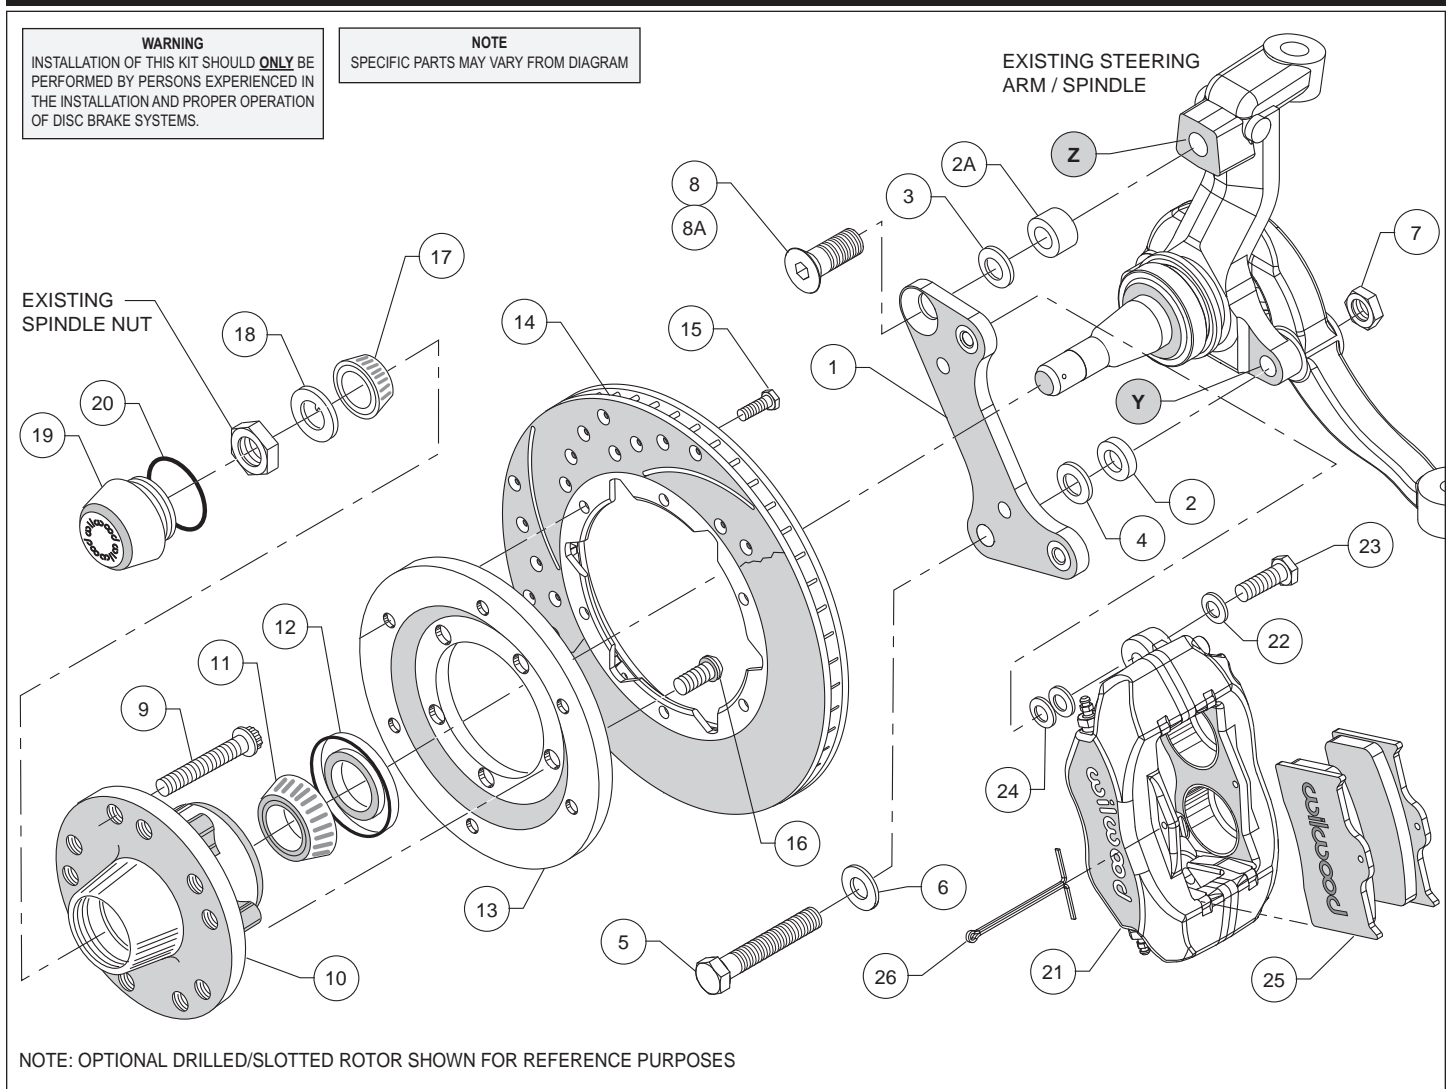
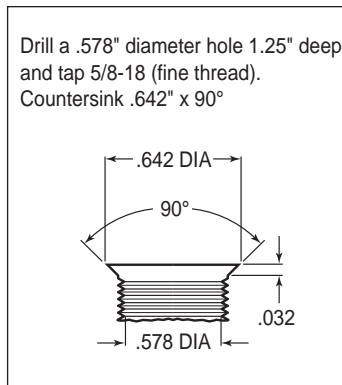
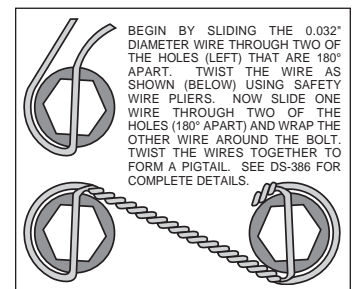
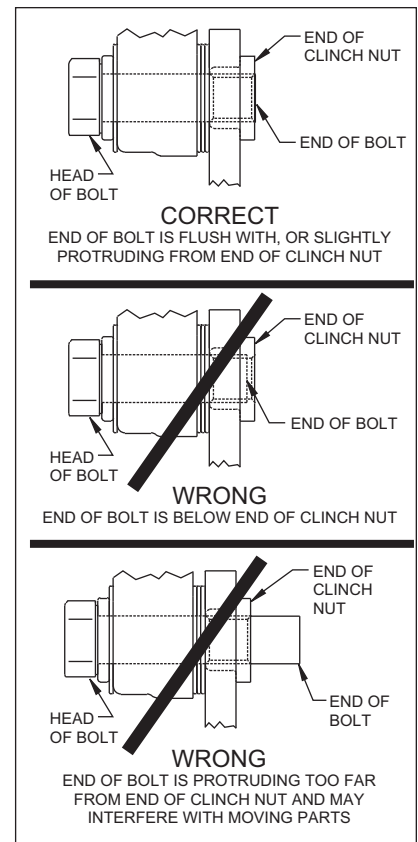

Figure 1. Typical Installation Configuration
Figure 3. Drill and Tap Detail
Figure 4. Safety Wire Diagram
Figure 5.
Assembly Instructions (numbers in parenthesis refer to the parts list and Figure 1 on the preceding page): **CAUTION:** All mounting bolts must fully engage clinch nuts. Be sure to check that all bolts are either flush or protruding through flanged side of clinch nut after shimming, Figure 5.
- NOTE:** 1964-66 spindles may require the following modifications (reference Figure 1 and Figure 3): Top anchor pin hole (Z) must be drilled and tapped to the dimensions as outlined in Figure 3. Bottom rear steering arm bolt hole (Y) in the spindle and steering arm must be enlarged to .50" by drilling.
- Install wheel studs (9) into the hub (10), Photo 1. Torque to 77 ft-lb. **NOTE:** There are two five lug patterns in the hub (5 x 4.50 and 5 x 4.75). Ensure the correct hub stud pattern is being used to fit the wheel application.
- Install the grease seal (12) by pressing into the backside of the hub (10), flush with the end of the hub, Photo 2.
- Orient the rotor (14) and the rotor adapter (13) as shown in Figure 1 and Photo 3. Attach the rotor to the adapter using bolts (15). Using an alternating sequence, apply red *Loctite*® 271 to the threads, and torque to 180 in-lb. Safety wire bolts (15) using standard 0.032 inch diameter stainless steel safety wire as shown in Figure 4. Refer to Wilwood's data sheet DS-386 (available at www.wilwood.com/pdf/ds386.pdf) for complete safety wire installation instructions.
- Mount the adapter/rotor assembly (13/14) to the hub (10) using bolts (16), as shown in Figure 1 and Photo 4. Using an alternating sequence, apply red *Loctite*® 271 to the threads, and torque to 55 ft-lb. Safety wire bolts, as shown in Figure 4.
- Attach caliper mounting bracket (1) to spindle face using lower bolt (5), washer (6), and a .090" thick spacer (2) positioned between the bracket and the spindle face, as shown in Figure 1 and Photo 5. Secure bolt on the backside of the steering arm with nut (7). Finger tighten. Install upper bolt (8) (for drum spindle) or bolt (8A) with spacer (2A) between bracket and spindle (for disc brake spindle), Photo 6. Ensure that the flanged heads of the clinch nuts in the bracket are facing outboard, Photo 6. Temporarily tighten the mounting bolts and install the new hub/rotor assembly (10/14). Check that the bracket is aligned parallel to the rotor, Photo 7. If not, adjust by adding shim washers (3 and/or 4) between spacers (2 and/or 2A) and the bracket, Figure 1. Once the bracket alignment is correct, remove the bolts one at a time, apply red *Loctite*® 271 to bolt threads, and torque upper bolt (8 or 8A) to 120 ft-lb. and lower bolt (5) to 77 ft-lb.
- Screw dust cap (19) into hub (10). Friction created by the o-ring on the dust cap keeps it from unscrewing. **NOTE:** *The O.D. of the existing OEM spindle washer may be larger than the I.D. of the dust cap not allowing it to seat against the hub face. Therefore, use the spindle washer (18) supplied with the kit instead of the OEM washer.*
- **NOTE:** *Please reference the caution statement at the beginning of the assembly instructions.* Mount the caliper (21) onto the caliper mounting bracket (1) using bolts (23) and washers (22), as shown in Figure 1. Initially place two .032" thick shims (24) on each bolt between the caliper and the bracket, Photo 9. Temporarily tighten the mounting bolts and view the rotor (14) through the top opening of the caliper. The rotor should be centered in the caliper, Photo 10. If not, adjust by adding or subtracting shims between the bracket and the caliper. Always use the same amount of shims on each of the two mounting bolts. **NOTE:** *The end of each bolt must be flush with or slightly protruding from the head of the clinch nut, as shown in Figure 5. If necessary place spare shims between washer (22) and caliper mounting ear to achieve the proper clinch nut engagement, as shown in Figure 5. Once the caliper alignment and clinch nut engagement are correct, remove the bolts one at a time, apply red *Loctite*® 271 to bolt threads, and torque to 40 ft-lb. Safety wire the bolts as shown in Figure 4.*